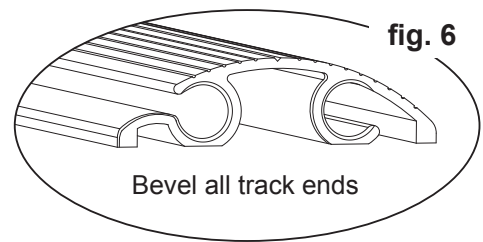

fig. 6
5.1 Bevel & de-burr track ends. (fig. 6 & 7)